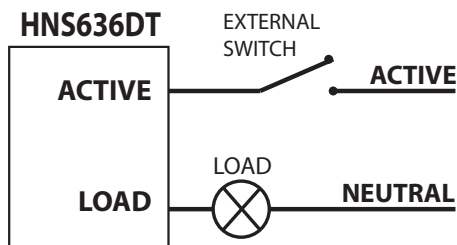
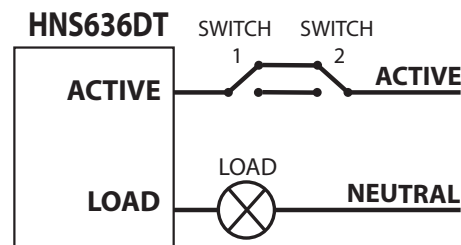

Figure 1: HNS636DT Single Switch Wiring Diagram
Figure 2: HNS636DT Dual Switch Wiring Diagram
- Install the HNS636DT as per the wiring diagram in Figure 1 or Figure 2.